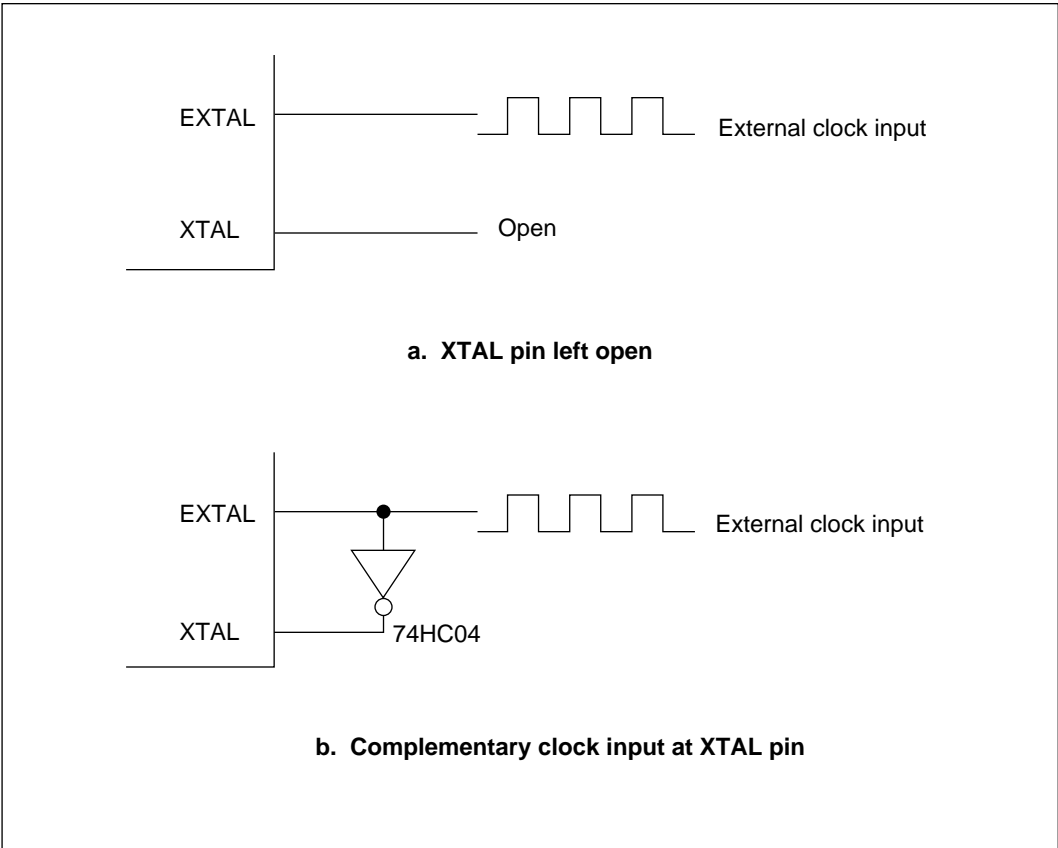

Figure 8-5 External Clock Input (Examples)
(1) Circuit Configuration: An external clock signal can be input at the EXTAL pin as shown in the examples in figure 8-5. In example b, the clock should be held high in standby mode.